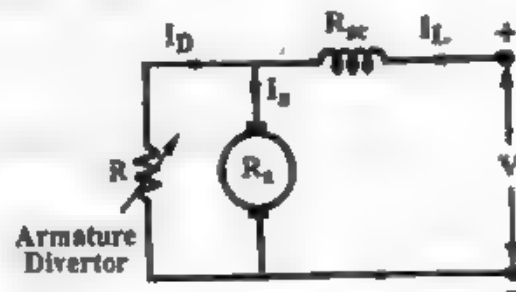

Fig. 4.16
(2) Armature Divertor – In this method, a variable resistance R is connected in parallel with the armature as shown in fig. 4.16. It diverts the path of the line current I_L . A part of the current I_D flows through the diverter and decreases the armature current I_a . For a given constant load torque, if I_a is decreased then ϕ must increase ($\because T \propto \phi I_a$). This gives in increase in current drawn by the motor and a fall in speed ($\because N \propto 1/\phi$). By varying the diverter resistance, any speed below normal can be achieved by this method.